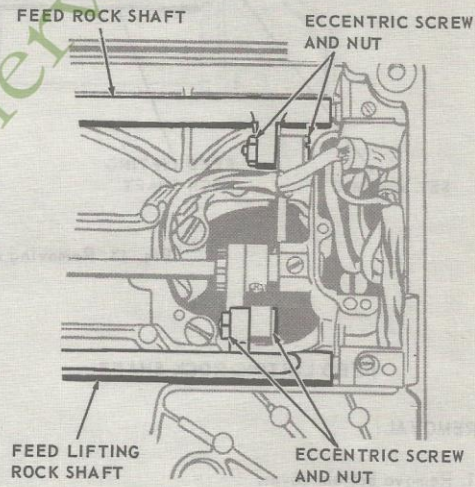

Fig. 45. Removing Feed Connecting Rod and Feed Fork
4. Remove eccentric screw and nut, Fig. 45, disengaging connecting rod from feed lifting rock shaft.
3. Replace eccentric screw and nut, Fig. 45, engaging connecting rod to feed lifting rock shaft.
3. Remove eccentric screw and nut, Fig. 45, disengaging feed forked connection from feed rock shaft.
2. Replace eccentric screw and nut, Fig. 45, engaging feed forked connection to feed rock shaft.